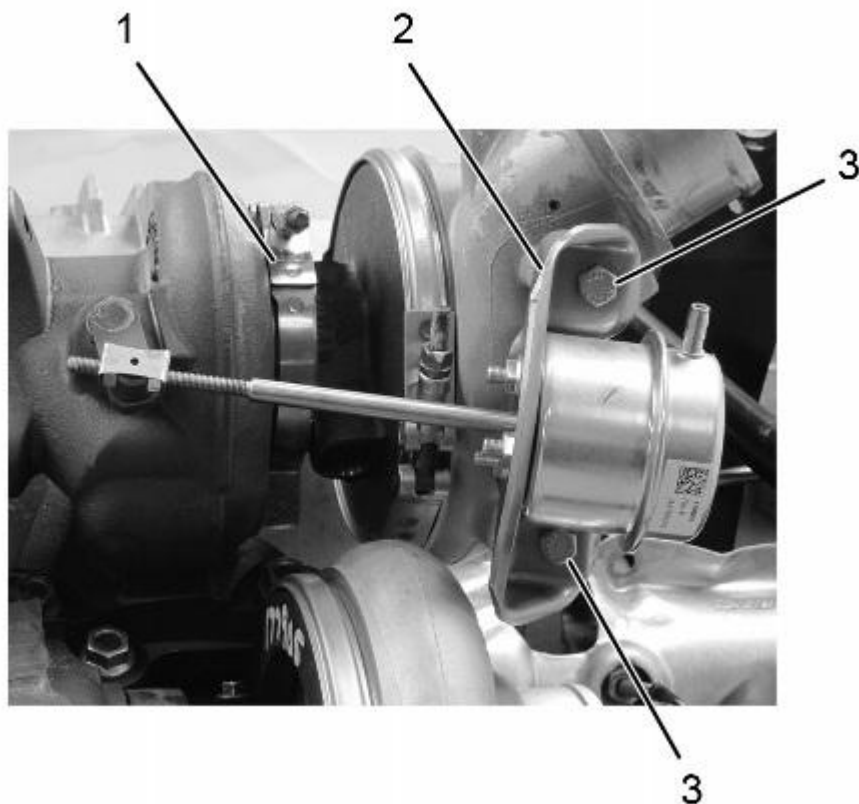

**Figure 12. Wastegate Actuator.**
- 3. M8 x 16 bolt (2)
6. Install turbine V-band clamp (Figure 12, Item 1) on HP turbocharger.
7. Using torque wrench, torque turbine V-band clamp (Figure 12, Item 1) to 13 lb-ft (17 N•m).
8. Install wastegate actuator (Figure 12, Item 2) with two bolts (Figure 12, Item 3).